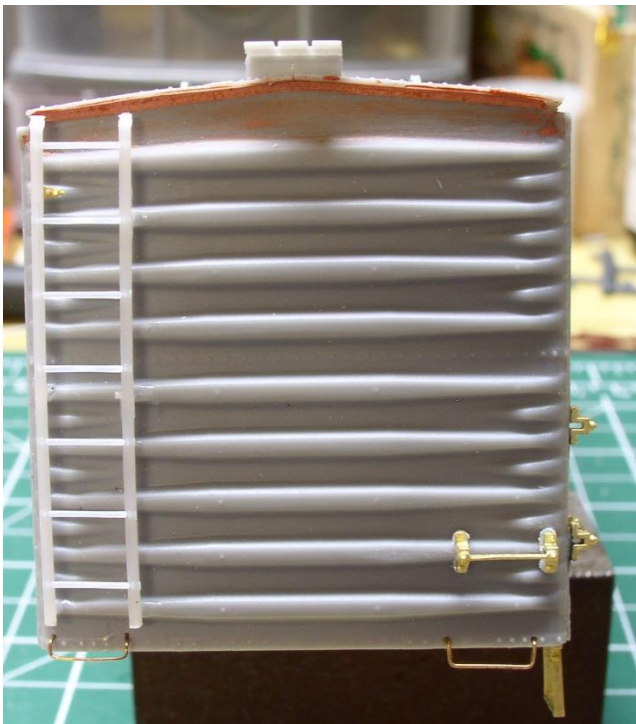

Figure BD12d Series 4
15. Drill a hole 3" in from the left side above the rivet line using a 0.016" bit. Drill another hole 18" to the right of the first hole. This is for the Tichy 18" drop step. Glue the ladders and the drop step in place. See Figure BD12d or BD12e.